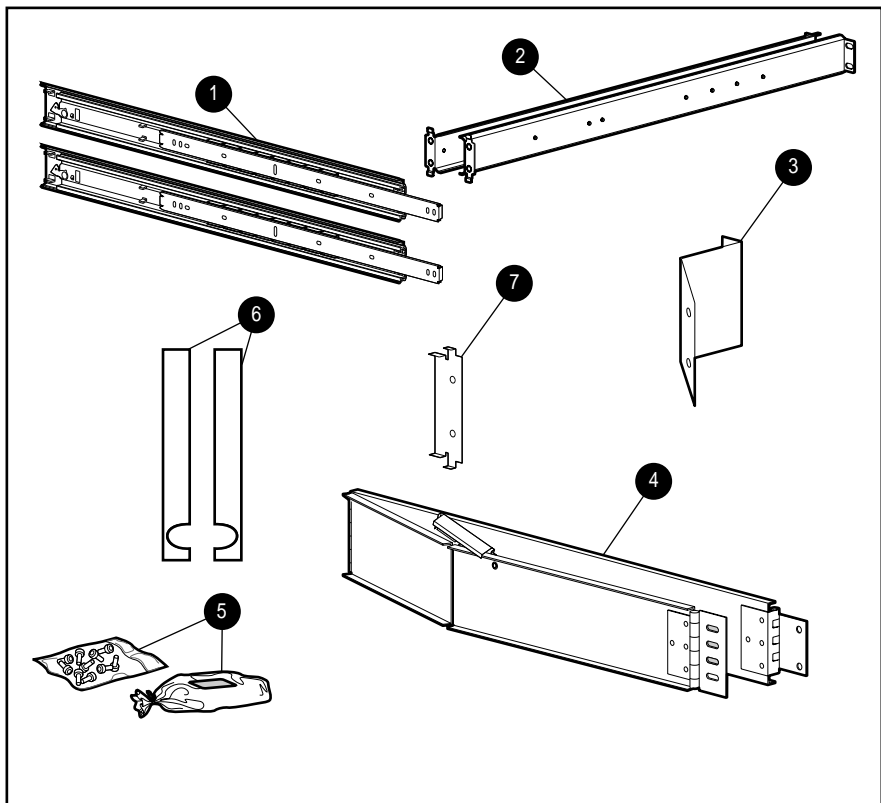

Figure 3-1. Rack mounting hardware included with the server
- Rack mounting hardware (numbers reference Figure 3-1)
- ① One pair slide rail mounting brackets
- ② One pair 26-inch slide rail assemblies
- ③ Cable management arm bracket
- ④ Cable management arm
- ⑤ Cable management arm screws
- ⑥ Plastic rail covers (2)
- ⑦ Cable management arm support bracket